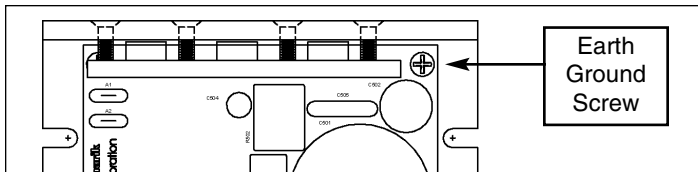

Figure 2. Earth Ground Screw
- Connect earth ground to the earth ground screw attached to the PC board. See Figure 2 for the earth ground screw location.